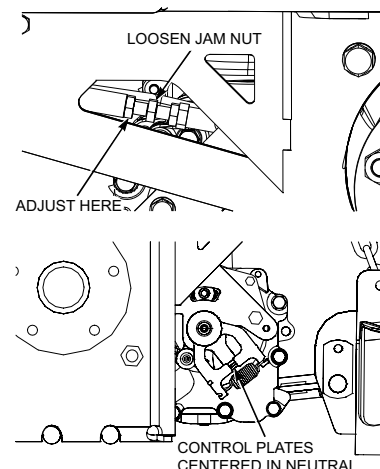

Figure 6-2. Steering Control Linkage Adjustment
6. To adjust the RH side, make sure the control levers are in the neutral lock position. Then remove the wheel, loosen the jam nut on the control arm, and adjust the control rod until the control plates on the trans axle are centered in neutral. See Figure 6-2.
7. Tighten the jam nuts and repeat for the LH wheel. See Figure 6-2.